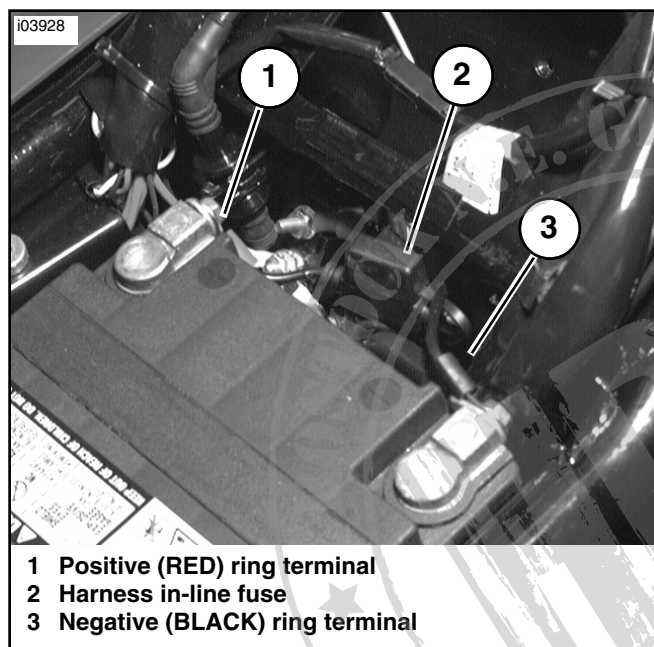

Figure 7. Battery Harness Routing (FLHT Models)
1. See Figures 7 and 8. Route the harness/ connector (6) down along the front of the battery, then to the right toward the space between the right frame tube and the battery box (5).
2. Cleanly tuck the in-line fuse (2) into the nest directly in front of the battery. Bring the harness/ connector out under the right side of the battery box and continue to route through the hole or slot in the frame sheet metal (4) down to just above the oil fill (7) dipstick. Use a cable strap and secure the connector to the conduit on the existing harness running vertically near the frame tube. Trim any excess from the cable strap.